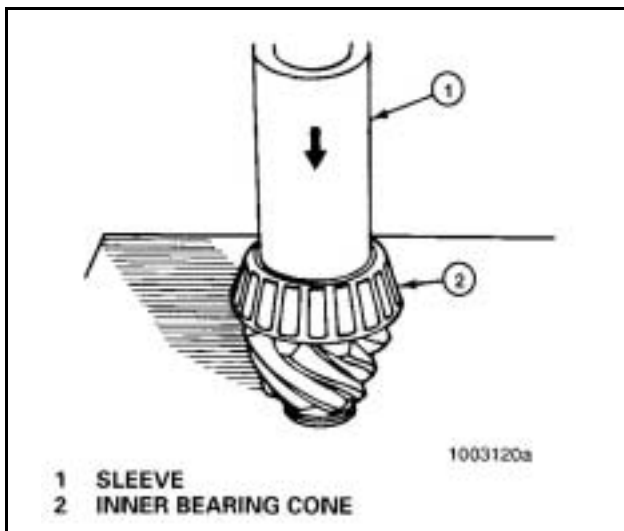

Figure 56
4. Place the drive pinion in a press, gear head (teeth) toward the bottom. **Figure 56.**